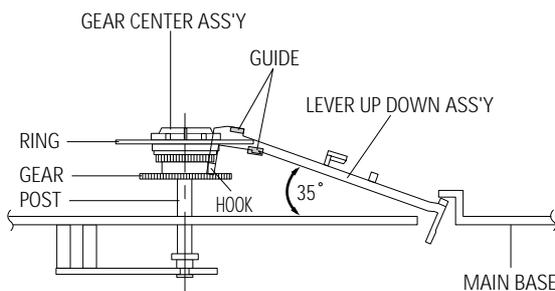

Fig. 4-27 Lever Up Down Ass'y Removal
- 1) Insert the Lever Up Down Ass'y ❶ in the rectangular holes on Main Base as shown in Fig 4-27.
- 2) Lift the Lever Up Down Ass'y ❶ about 35°. (Refer to Fig 4-27)
- 3) Insert Ring of the Gear Center Ass'y ❷ in the Guide of the Lever Up Down Ass'y ❶.
- 4) Insert the Gear Center Ass'y ❷ in the post on Main Base.
- 5) Push down the Lever Up Down Ass'y ❶ for locking of the Hook.